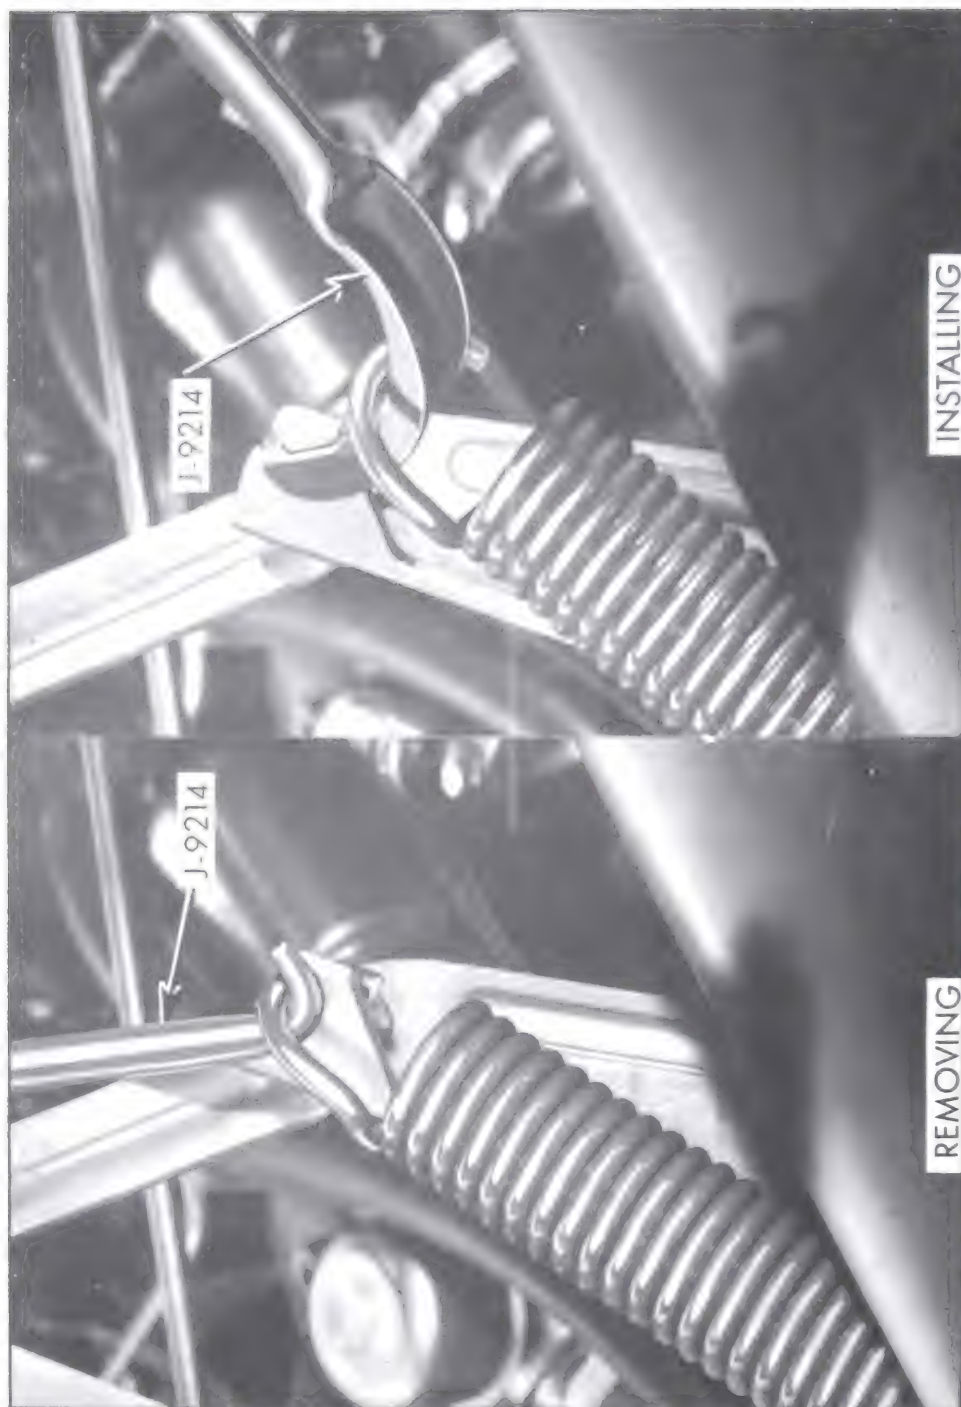

Figure 12-5—Removing and Installing Hood Hinge Spring
2. To remove hood spring insert Remover and Installer J-9214 through loop in forward end of spring. Push tool toward rear of car using hinge as a pivot and carefully remove spring from notch. See Figure 12-5.
4. To replace hood spring, insert Remover and Installer J-9314 through loop in forward end of spring. Push tool upward, using hinge as a pivot, and seat spring into notch. See Figure 12-5.